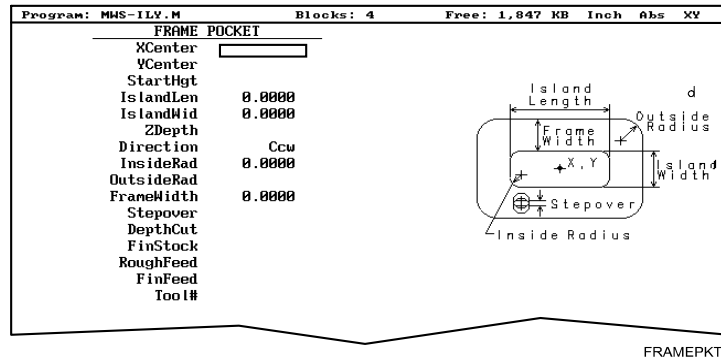

Figure 5-17, FRAME POCKET Graphic Menu
2. Highlight **Frame**, and press **ENTER** to display the **FRAME POCKET** Graphic Menu. Refer to **Figure 5-17**.